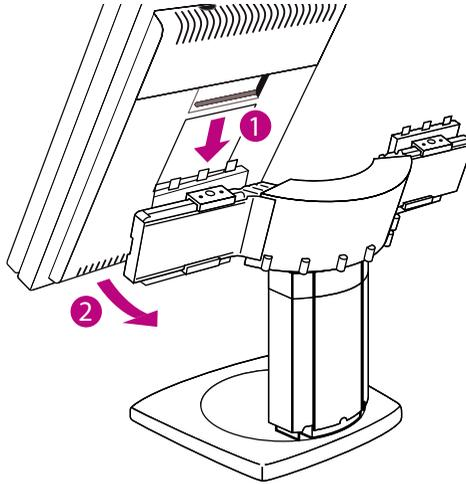

Figure 20:
5. Hook the top gaps in the rear of the panel over the top anchors of the bracket (figure 20 below).
6. Push the bottom of the panel firmly towards the stand so that the bottom anchors clip in the bottom gaps (figure 20 below).